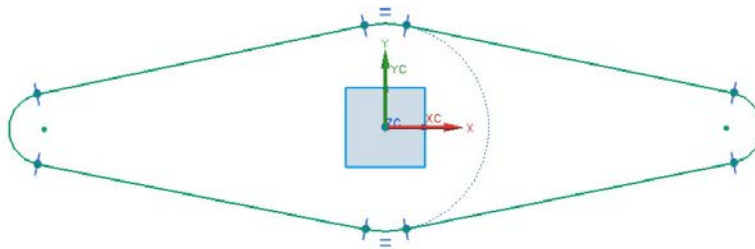

Figure 4-110 Sketch after trimming the unwanted portion of circles
6. Release the left mouse button to trim the unwanted portions of the circles, refer to Figure 4-110. Next, choose the **Close** button from the **Quick Trim** dialog box.